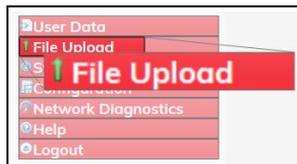

Figure 83: File Upload link
6. On the **Menu** list, click the **File Upload** link. Figure 83